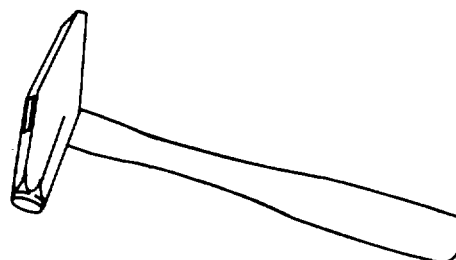

Figure 4-3. Riveting Hammer
(3) Riveting hammer. The riveting hammer, shown in figure 4-3, is used for driving rivets and for light chiseling. One end of the head is cross peened. The other end may have either a square or a chamfered face.